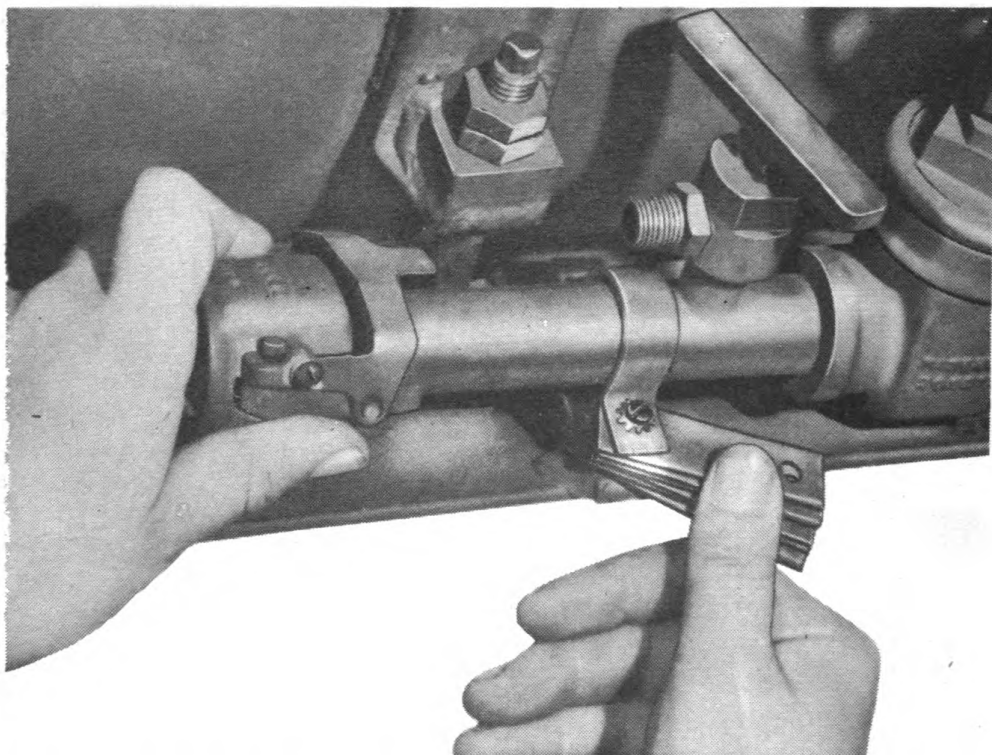

Fig. 18. Clamp fillers being moved into position under fuel line. Clamp is in position on fuel outlet piping of sponson fuel group.
(4) Place fuel line clamp over piping. Place clamp fillers (shims) under piping, alining holes in fillers with those in base bracket. Secure clamp to base bracket by passing two screws through clamp and fillers to the base bracket. By placing front screw through clamp and fillers first (fig. 18), fillers may be readily moved into position for back screw. Tighten with screw driver.